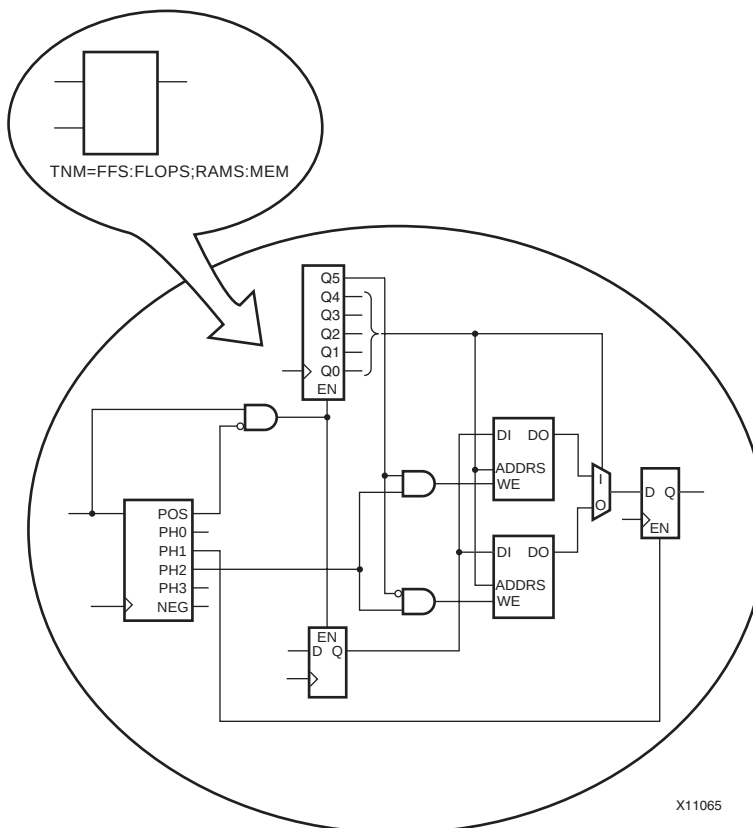

Figure 3-5: The TNM on the upper left hierarchy is traced down to the lower level element
- Figure 3-5, “The TNM on the upper left hierarchy is traced down to the lower level element”